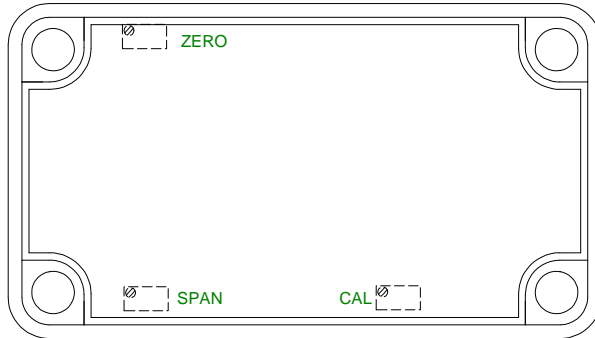

Figure 2: Potentiometer location
10. Adjust the "cal. pot." until 500.0 is displayed on the computer screen. The "cal. pot." is located on the P.C. board behind the cover of the LIAC, see figure 2.